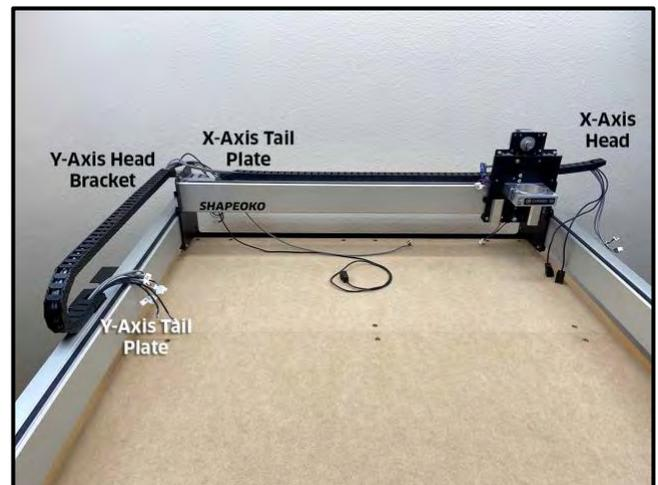

Figure 11
3. Secure the drag chain to the rails, but leave the X-Axis drag chain head disconnected for now. See **Fig. 11**.
- i. Use a 2mm hex key, needle nose pliers, two (2) M3×8mm FHS, and two (2) nyloc nuts to secure.
- ii. Use a 2mm hex key and one (1) M3×6mm FHS to secure.
- i. Use a 2mm hex key and one (1) M3×6mm FHS to secure.